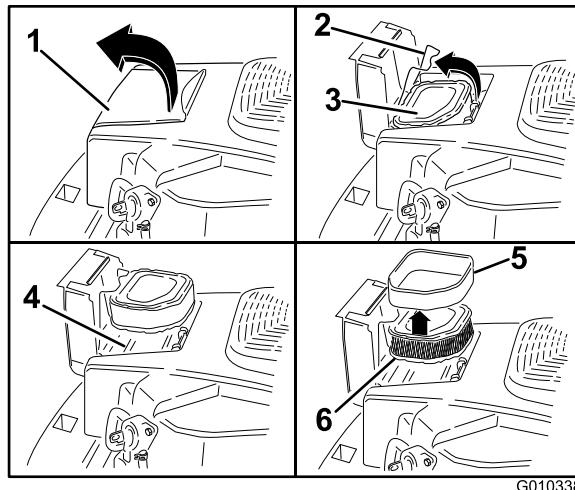

Figure 38
1. Open the air cleaner cover door on the blower housing to access the air cleaner element (Figure 38).
2. Unhook the latch and remove the air cleaner (Figure 38).